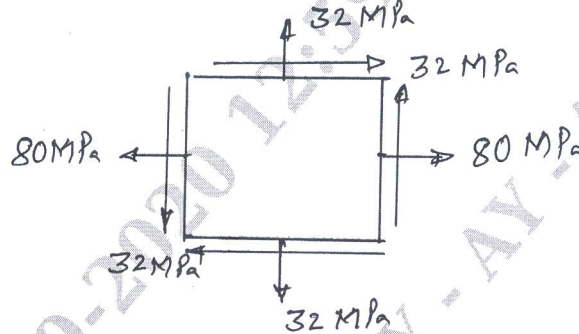

Fig.Q.3(b)
- b. The state of stress at a point in a strained material is shown in Fig.Q.3(b). Determine: